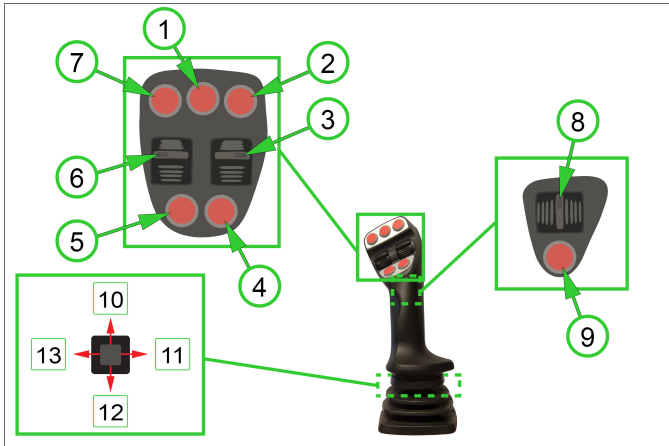

Figure 18
The Joystick provides an alternative to the CX3 for controlling many of the win-drawer functions. The Joystick controls include the Joystick axis, rocker switch position, and momentary button depression. Depending on its mapping, the Joystick will control up to 16 unique functions. (See [\[Info\]](#) and Figure 18)
Legend for Figure 18: (1) Top Center Button, (2) Top Right Button, (3) Right Rocker, (4) Bottom Right Button, (5) Bottom Left Button, (6) Left Rocker, (7) Top Left Button, (8) Front Rocker, (9) Front Button, (10) Y Axis Forward, (11) X Axis Right, (12) Y Axis Backward, (13) X Axis Left.